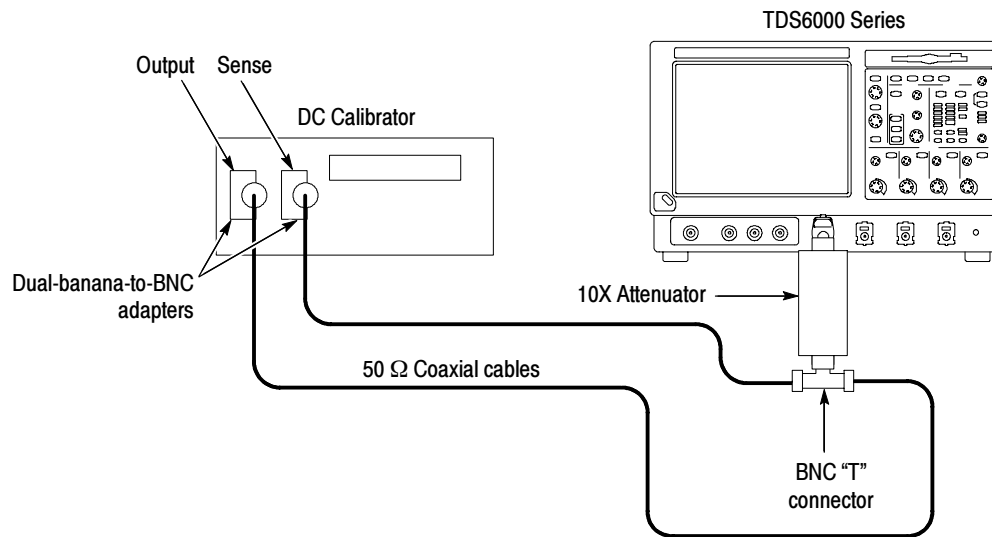

Figure 4-12: Initial test hookup
- Connect the output of a DC calibration generator through a dual-banana connector followed by a 50 Ω precision coaxial cable to one side of a BNC T connector. See Figure 4-12.
- Connect the Sense output of the generator through a second dual-banana connector followed by a 50 Ω precision coaxial cable to the other side of the BNC T connector. Now connect the BNC T connector to **CH 1** through a 10X attenuator and an adapter. See Figure 4-12.